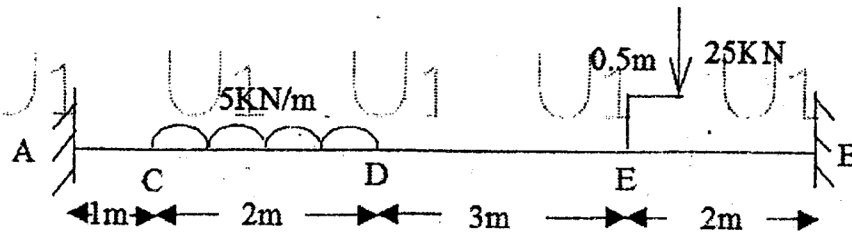

Figure: 5
7. Determine the fixed end moments, reactions and, Draw BMD for the fixed beam shown in Figure 5. [10]